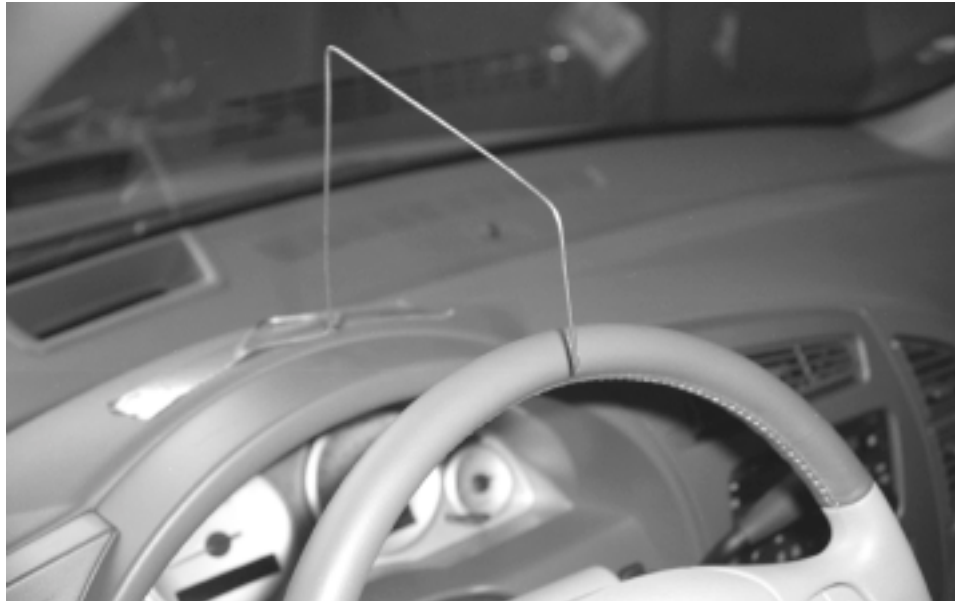

Figure 13-27 Front wheels straight ahead and wire pointer positioned over the center mark on the steering wheel.
3. Bend a stiff piece of wire so it can be taped to the top of the dash with the outer end of the wire positioned over the steering wheel marks. Be sure the front wheels are straight ahead with the tip of the wire over the center mark on the steering wheel (Figure 13-27). Be sure the wire is securely taped to the top of the instrument panel.